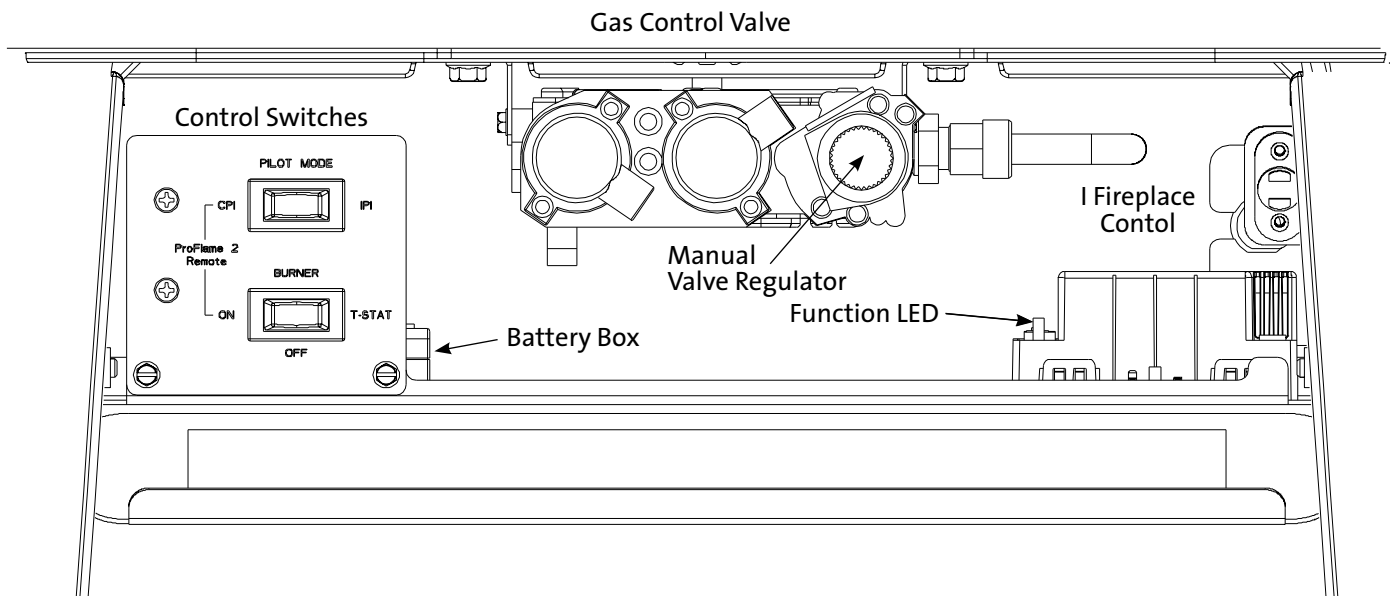

Figure 15.1. GF 305 DV IPI Controls Compartment.
1. Set the Burner switch to OFF. See fig. 15.1.
- **CPI** for continuous pilot operation. **NOTE: The pilot light will burn continuously for up to seven (7) days, after which it will automatically extinguish. The pilot will then re-ignite at the next call for heat.**